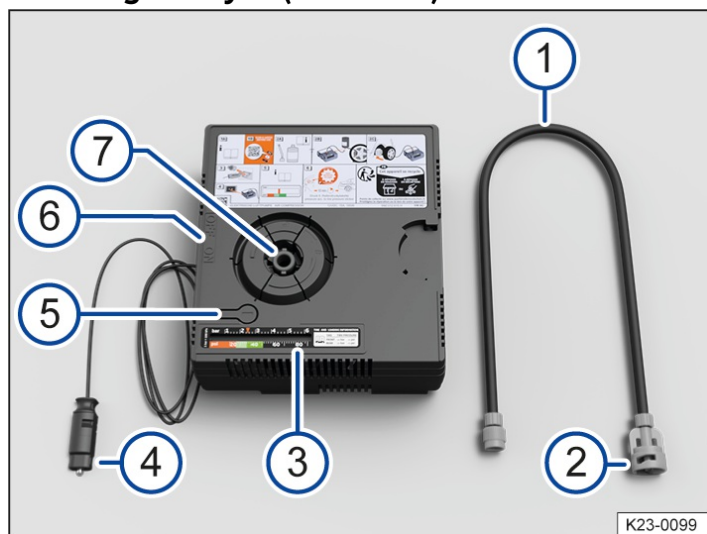
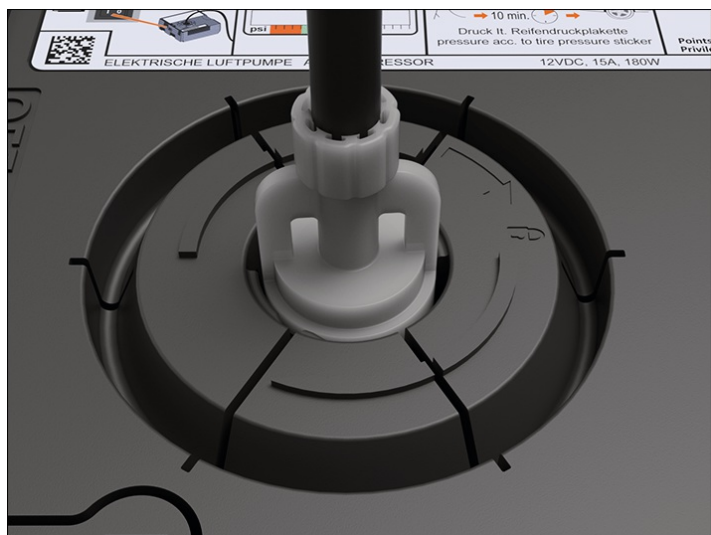

Fig. 2 Compressor in the breakdown set (illustration).
Fig. 3 Connecting the tyre filler hose.
1. Remove the tyre filler hose → Fig. 2  from the rear of the compressor.
2. Insert the tyre filler hose → Fig. 2  with the wing nut  into the mount for the tyre filler hose  so that the wing nut is pointing to .
3. Turn the wing nut → Fig. 2  in clockwise direction until the wing nut is pointing to  → Fig. 3.
4. Screw the tyre filler hose → Fig. 2  of the compressor tightly onto the tyre valve.
6. Insert the 12-volt plug → Fig. 2  into one of the vehicle's 12-volt sockets (→ Sockets).
7. Switch on the compressor with the ON/OFF switch → Fig. 2 .